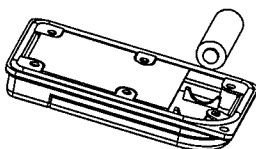

Fig. 9
3. Replace the DC12V 38mAh battery in correct orientation and make sure of good contact with the terminal (**see Fig. 9**).